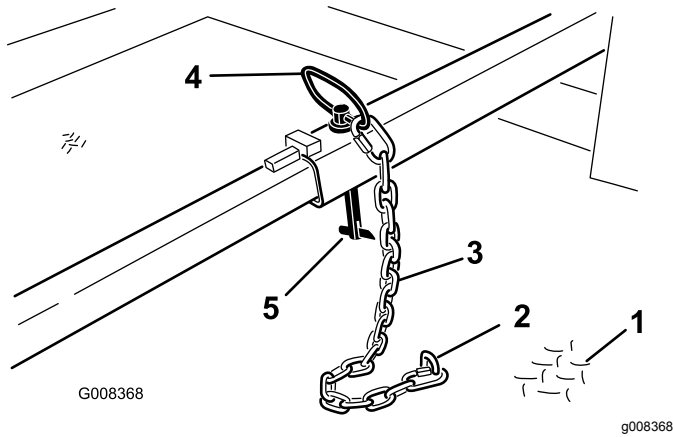

Figure 8
1. Install the retaining chain from the bed of the trailer to the retaining pin (Figure 8).